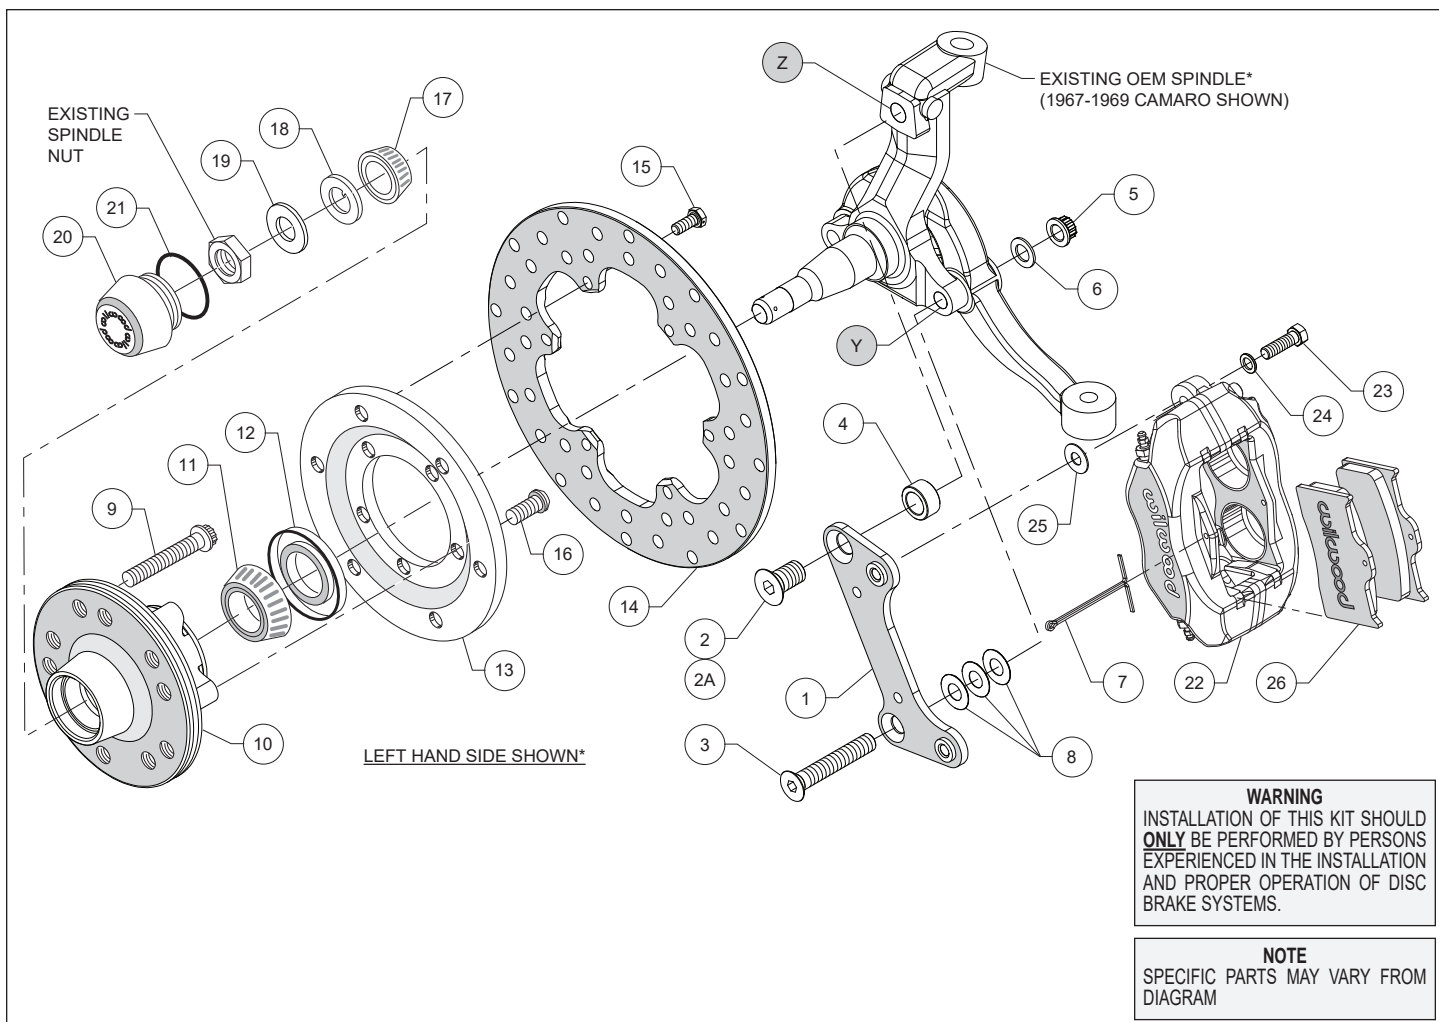
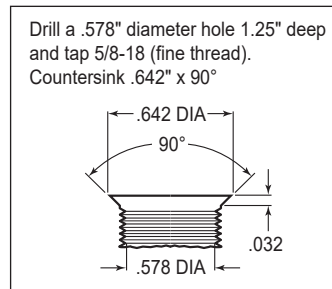
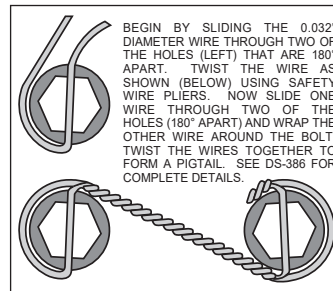
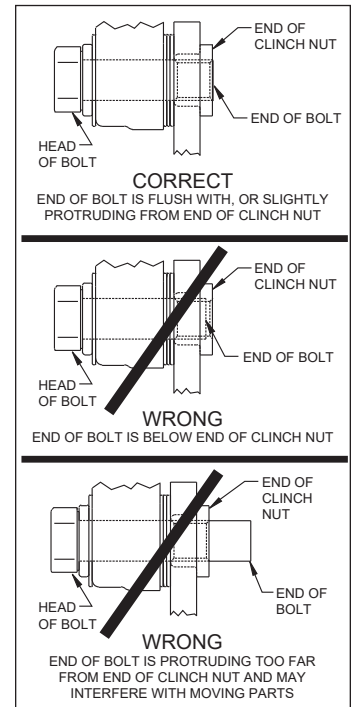

Figure 1. Typical Installation Configuration
Figure 3. Drill and Tap Detail
Figure 4. Safety Wire Diagram
Figure 5. Clinch Nut Engagement Diagram
Assembly Instructions (numbers in parenthesis refer to the parts list, on the preceding page and Figure 1): **CAUTION:** All mounting bolts must fully engage clinch nuts. Be sure to check that all bolts are either flush or protruding through flanged side of clinch nut after shimming, Figure 5.
•**NOTE:** Some applications for this kit have the steering arm to the rear of the spindle and others to the front. Also, some applications have room to mount the bracket and caliper on the steering arm side of the spindle while the steering arm may interfere in other applications. The brackets in this kit may be mounted on either the front or rear side of the spindle. If mounting to the front of the spindle, the right hand bracket will be used on the left hand side of the vehicle and vice versa. Figure 1 shows a typical 1967-1969 Camaro left side application where the steering arm is to the rear and there is room to mount the caliper on the steering arm side as shown. Determine which way the bracket and caliper will fit best on your application.
•**NOTE:** Some spindles in this year range may require the following modifications (reference Figure 1 and Figure 3): Top anchor pin hole (Z) must be drilled and tapped to the dimensions as outlined in Figure 3. The lower bolt hole (Y) in the spindle used to mount the new caliper bracket, and the mating steering arm hole, must be enlarged to .50" by drilling. It is recommended these modifications be performed by a qualified machinist.
•Install wheel studs (9) into the hub (10), Photo 1. Torque to 77 ft-lb. **NOTE:** There are two five lug patterns in the hub (5 x 4.50 and 5 x 4.75). Ensure the correct hub stud pattern is being used to fit the wheel application.
•Pack the large inner bearing cone (11) with high temperature disc brake bearing grease (available from your local auto parts store) and install into the backside of the hub (10), Photo 2.
•Install the grease seal (12) by pressing into the backside of the hub (10), flush with the end of the hub, Photo 2.
- Orient the rotor (14) and the rotor adapter (13) as shown in Figure 1 and Photo 3. Attach the rotor to the adapter using bolts (15). Using an alternating sequence, apply red *Loctite*® 271 to the threads, and torque to 25 ft-lbs. Safety wire bolts using standard 0.032 inch diameter stainless steel safety wire as shown in Figure 4. Refer to Wilwood's data sheet DS-386 (available at www.wilwood.com/Pdf/DataSheets/ds386.pdf) for complete safety wire installation instructions.
- Mount the adapter/rotor assembly (13 and 14) to the hub (10) using bolts (16), as shown in Figure 1 and Photo 4. Using an alternating sequence, apply red *Loctite*® 271 to the threads, and torque to 45 ft-lb.
- Disc Brake Spindle Application Only:** Follow the instructions below, but instead use bolt (2A), and spacer (4) in the upper bolt hole location, Figure 1.
- Orient the caliper mounting bracket (1) as shown in Figure 1 and Photo 5, and install using bottom bolt (3), washer (6), and nut (5), Figure 1. Initially place three .032" thick shims (8) between the bracket and spindle. Install the upper bolt (2). Temporarily tighten bolts. **NOTE:** *The bracket must fit squarely against the mounting surfaces on the spindle.* Inspect for interference from casting irregularities, machining ridges, burrs, etc. Temporarily install the new hub and rotor assembly. Check that the bracket is aligned parallel to the rotor, Photo 6. If not, adjust by adding or subtracting shims (8) on the lower bolt between the bracket and spindle, Figure 1. Once the bracket alignment is correct, remove the upper bolt (2 or 2A), apply red *Loctite*® 271 to the bolt threads, and torque to 120 ft-lb. Torque the lower lock nut to 65 ft-lb.
- NOTE:** *Please reference the caution statement at the beginning of the assembly instructions.* Mount the caliper (22) onto the caliper mounting bracket (1) using bolts (23) and washers (24), as shown in Figure 1. Initially place one .035" thick shim (25) on each bolt between the caliper and the bracket, Photo 9. Temporarily tighten the mounting bolts and view the rotor (14)
through the top opening of the caliper. The rotor should be centered in the caliper, Photo 10. If not, adjust by adding or subtracting shims (25) between the bracket and the caliper. Always use the same amount of shims on each of the two mounting bolts. **NOTE:** The end of each bolt must be flush with or slightly protruding from the head of the clinch nut, as shown in Figure 5. If necessary place spare shims (25) between washer (24) and caliper mounting ear to achieve the proper clinch nut engagement. Once the caliper alignment and clinch nut engagement are correct, remove the bolts one at a time, apply red *Loctite*® 271 to bolt threads, and torque to 40 ft-lb. For an added measure of security, the bolts may be safety wired using standard 0.032 inch diameter stainless steel safety wire as shown in Figure 3. Refer to Wilwood's data sheet DS-386 (available at www.wilwood.com/Pdf/DataSheets/ds386.pdf) for complete safety wire installation instructions.